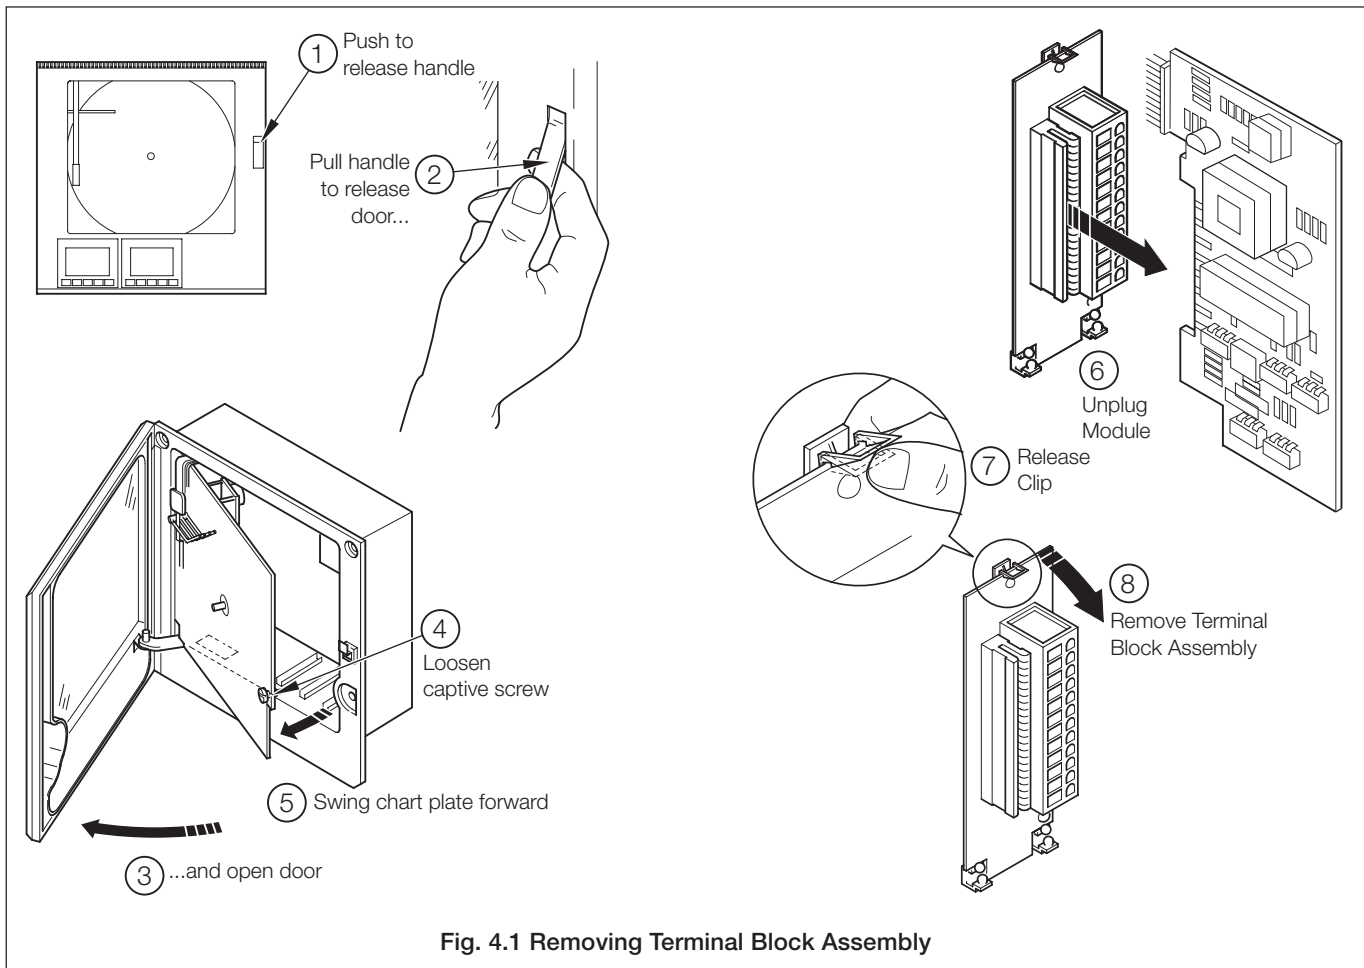

Fig. 4.1 Removing Terminal Block Assembly
- The terminal blocks can be removed from the main PCB when making connections – see Fig. 4.1. Before removing a module, note its position.